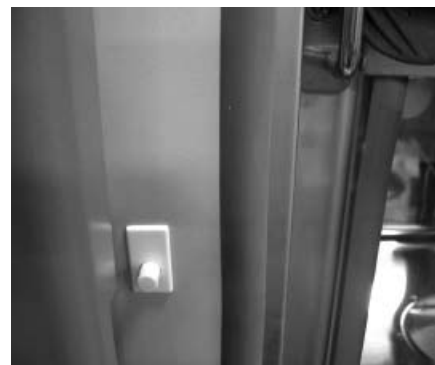

Figure 7-6. Door Switch
7. Open both doors to the incubator. Tape down the door switch (Figure 7-6) on the face of the unit. This ensures the humidity nebulizer operates in a 8 seconds on, 2 seconds off continuous cycle.